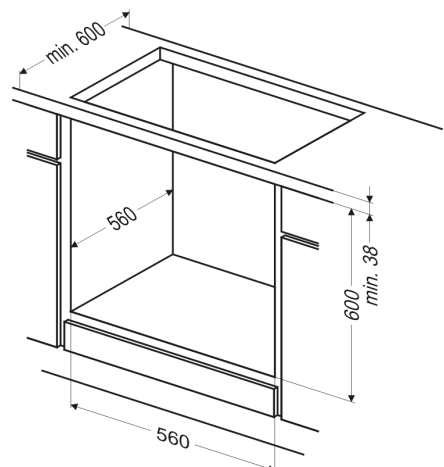

Fig.2
2. Prepare an opening in furniture unit (cabinet) with dimensions shown in Figure 2, to fit oven.